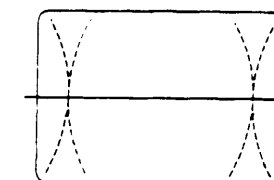

Fig 4.
- Watching the second vertical line in from both sides of the screen (fig. 4), make any upper or lower distortion symmetrical using buttons "4" or "6" on the remote control.